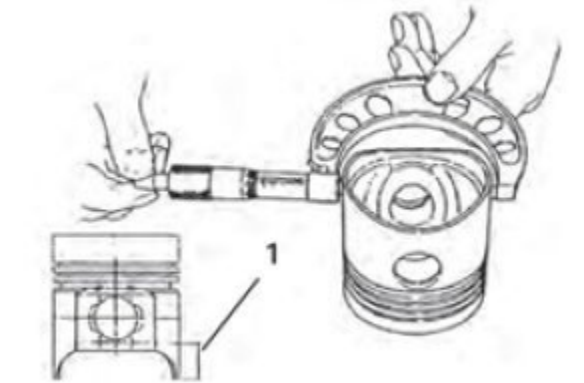

Figure 107.
4. Measure the diameter of the piston skirt at 90° to the wrist pin bore as shown (Figure 107). Measurements must be taken at a specified distance (Figure 107, Item 1) from the bottom of the piston. Record measurements. See *Mechanical Specifications Chart*.